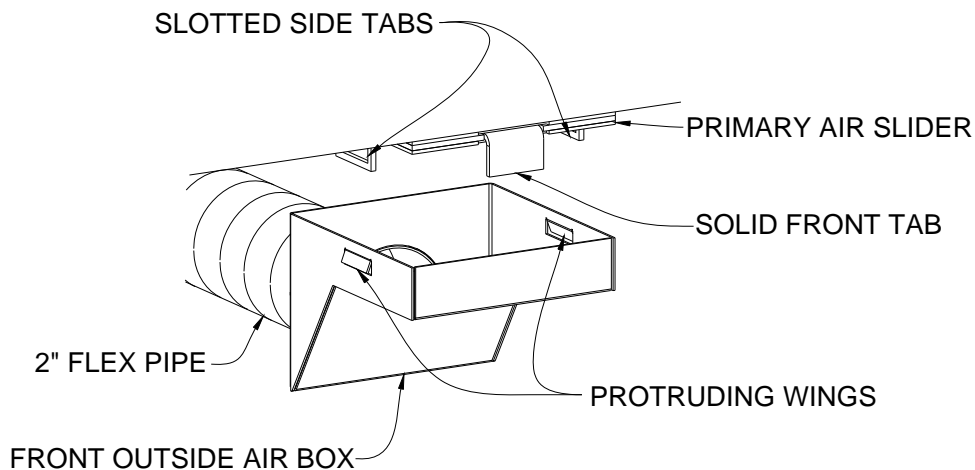

Figure 2
2. Pull the ash door (lip) toward the front of the unit and drop down. Locate the primary air control slider on the left side of the ash pan. Attach the 2" flex tube to the front outside air box (Gloves are recommended when handling the tubing). Slide the box and the tube under the left front corner of the unit with the open portion of the box facing up and the 2" flex tube extending back under the stove. Place the box between the two slotted side tabs and just behind the solid front tab. Push the box up firmly so that the small protruding wings on the side of the box snap into the slotted side tabs to hold the box in place. **Hint:** Squeeze the sides of the front outside air box if needed to allow the wings to snap into the slotted tabs. If the wings do not snap into place, remove the box and use a flat screwdriver to pry them out slightly. (Refer to figure 2)